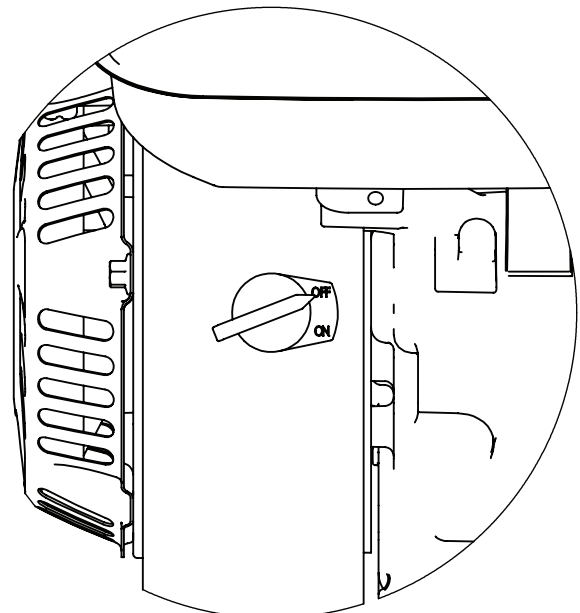

Figure 7
2. On manual-start models, turn the On/Off switch to the OFF position. **SEE FIGURE 7.**